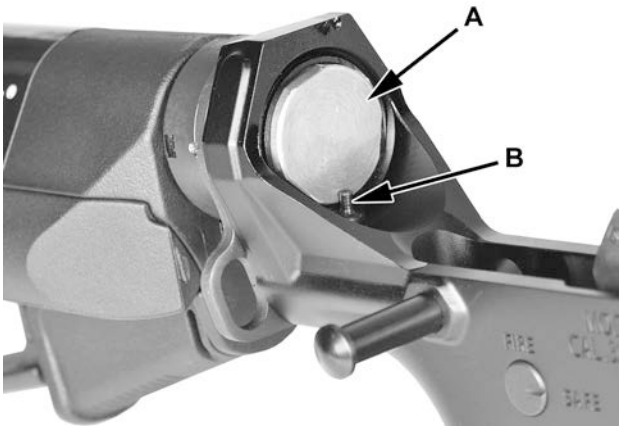

Figure 43
1. Insert the action spring onto the buffer and into receiver. Press down on retainer (B) and push buffer (A) past retainer, then release retainer. See figure 43.